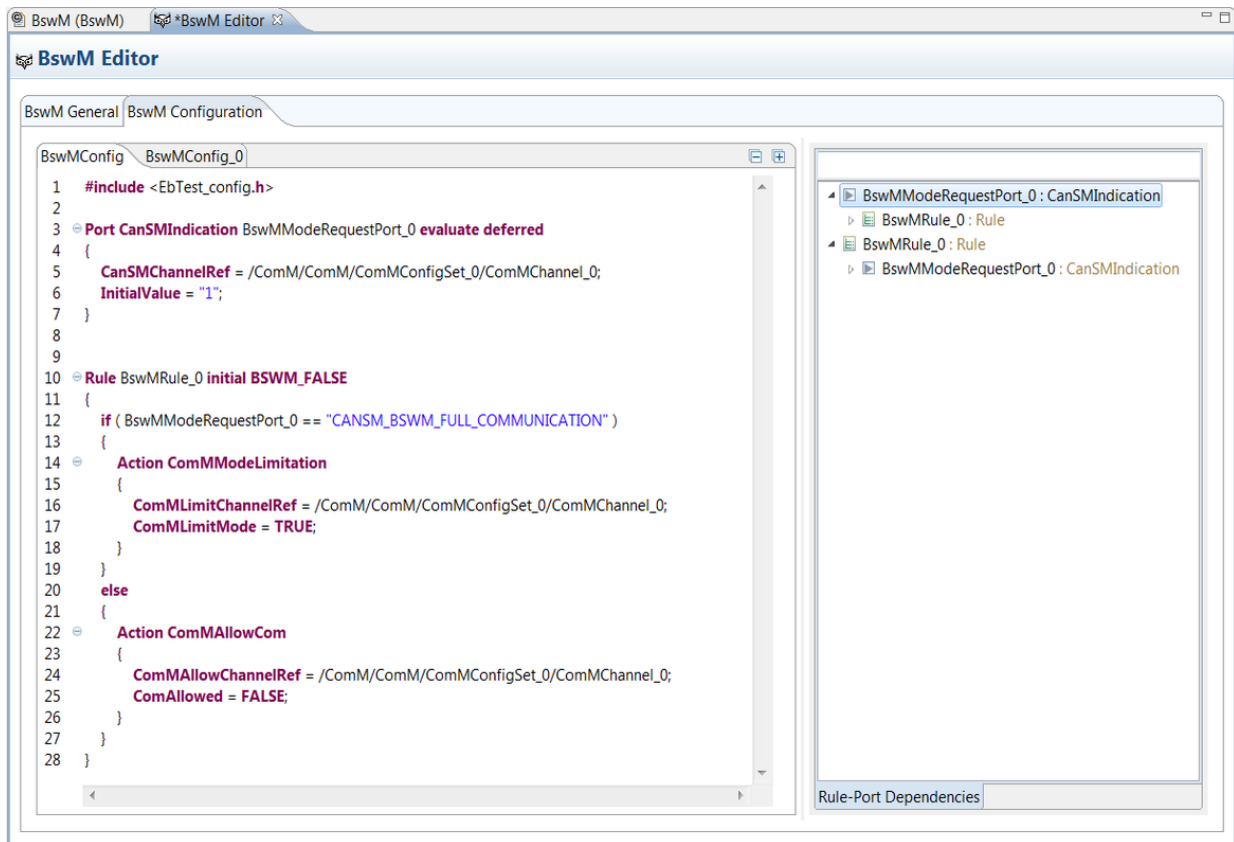

Figure 4.15. BswM Editor
8. Use this context-sensitive editor to create mode requests, switch ports, and rules. Figure 4.15, “BswM Editor” shows the editor with an example mode request. Further examples are given in later sections.